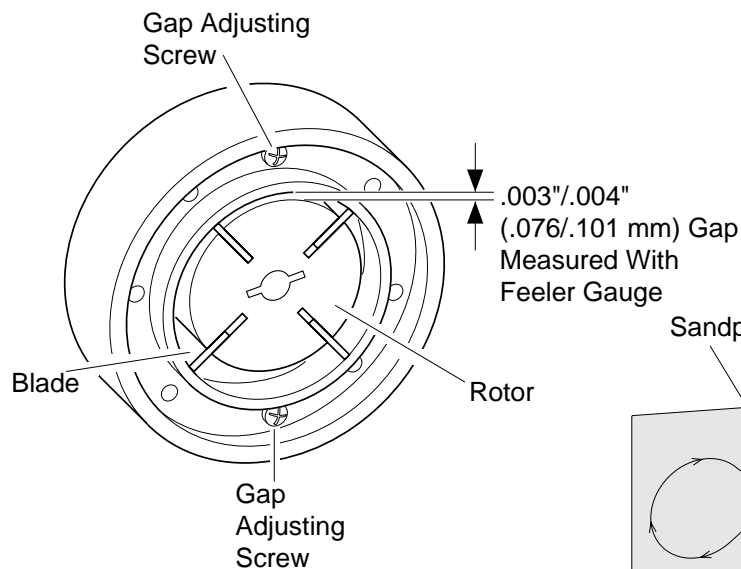

Figure 22 - Gap Adjusting Screw Locations
9. Check gap on rotor. Adjust to .003"/.004" (.076/.101 mm) if needed (see Figure 22).